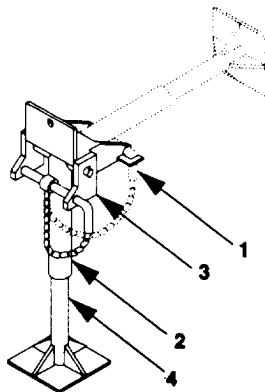

Figure 2-4. Rear Leveling-Support Jack.
- e. Pull out pin (1, figure 2-4) that secures rear leveling-support jack (2) in travel position.